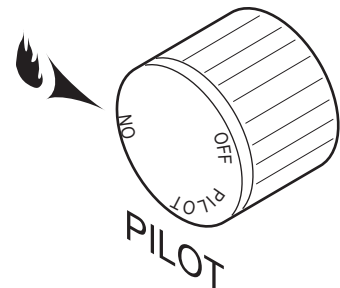

*Figure 22 -
Depress and turn the knob counterclockwise  to the "ON" position. *Figure 22*. It will take less than four (4) seconds for the burner to ignite.